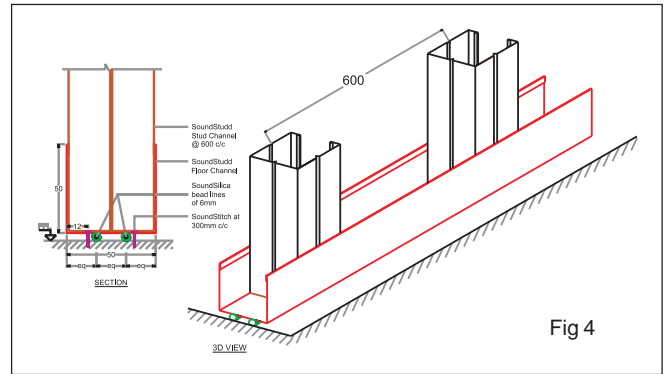

Fig 4
Studd Stud Channels (SC) of specified depth, usually 48 mm, are then inserted in the FC/HC and twisted into position at 600 mm centres. (See Fig 4)